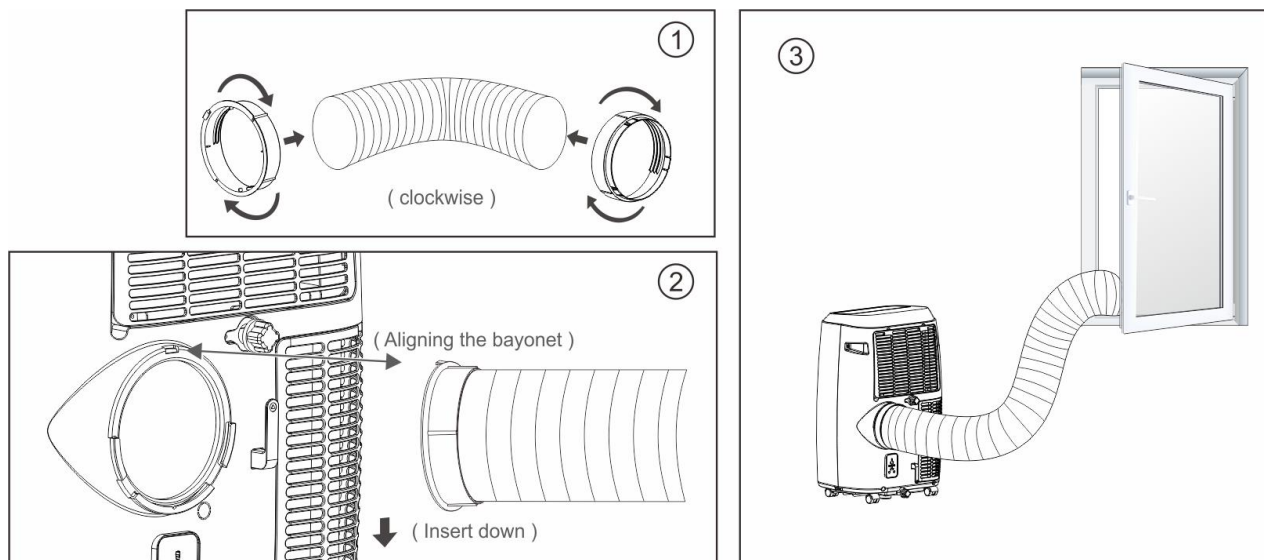

Fig.9
3. Put the other end of the exhaust hose to the nearest window (see Fig.9).